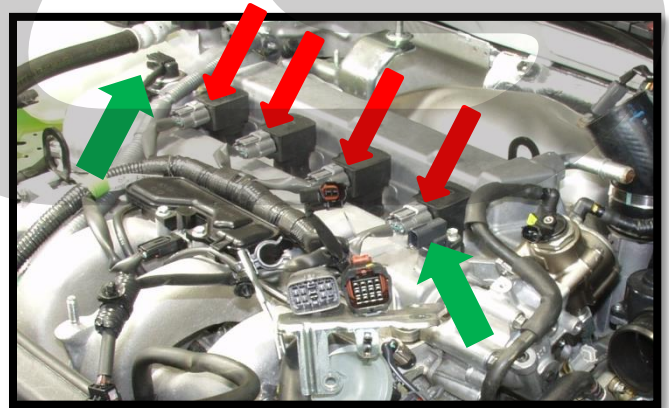
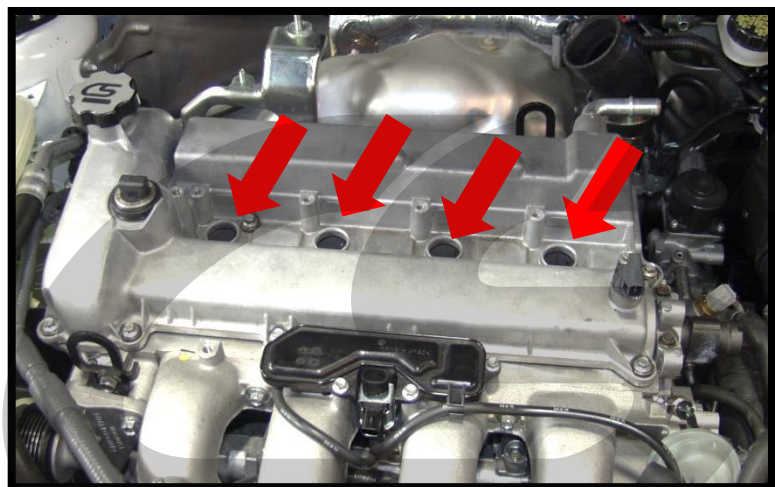

Figure 1j
Figure 1n
o) Unplug the four (4) spark plug coil connectors (red arrows) the camshaft position sensor & oil control valve (green arrows) and pull the wiring harness away from the motor towards the radiator (Figure 1j).
v) **Remove the four spark plug coils** (red arrows in Figure 1j) with an 8mm socket wrench. Shown removed in Figure 1n.
w) **Remove all four (4) spark plugs** with a spark plug socket and extension (red arrows in Figure 1n).